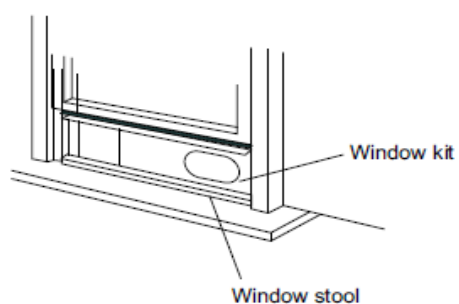

Fig. 12
4. Close the window on the window slide bars. For long term installation, you may screw the window kit into your window frame. Fig. 12.